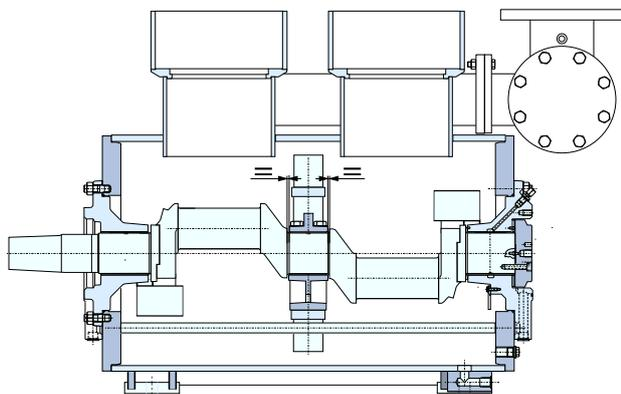

Fig.132
- 1.c. Subsequently, firmly tighten the bearing block(s) after the intermediate bearing(s) has(ve) been adjusted in accordance with the drawing (measure "=" + 0.5 mm) (Figure 132, Page 55).